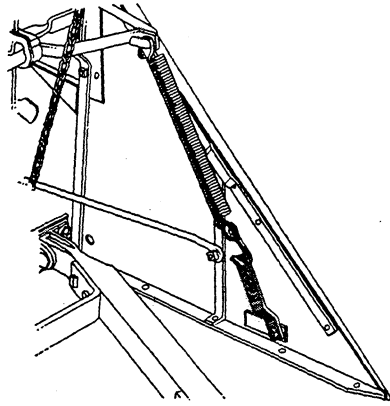

Figure 96
1. (Figure 96) Bolt spring bracket to inside divider. Hook other end of spring over hook end of bundle carrier foot lever connecting rod.